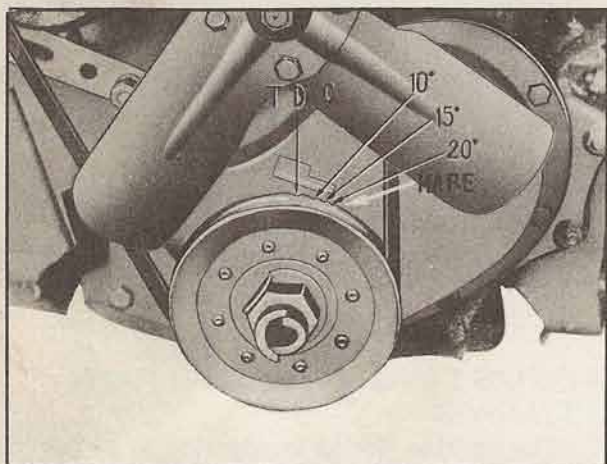

Fig. 2 Checking the Ignition Timing
The ignition timing is adjusted to 10 degrees before top dead center with the engine stopped as shown in Fig. 2. With this adjustment, the automatic timing advancer of the distributor advances the ignition timing even further at the time the engine starts to rotate, and the timing is maintained constantly at valves suitable for the rotational speed.
2. Turn the crankshaft gradually until the top dead center mark (Fig. 2) on the pulley periphery coincides with the mark for 10 deg. before top dead center on the timing gear cover as the crankshaft approaches its positions somewhat before that corresponding to the end of the compression stroke of the No. 1 piston. Stop the crankshaft in this position. The compression stroke of the No. 1 piston can be determined if the spark plug of the No. 1 cylinder is removed, the hole plugged with a finger, and the crankshaft turned. With the crankshaft in the previously-mentioned position, the No. 1 piston is in its position of 10 deg. before top dead center of compression.